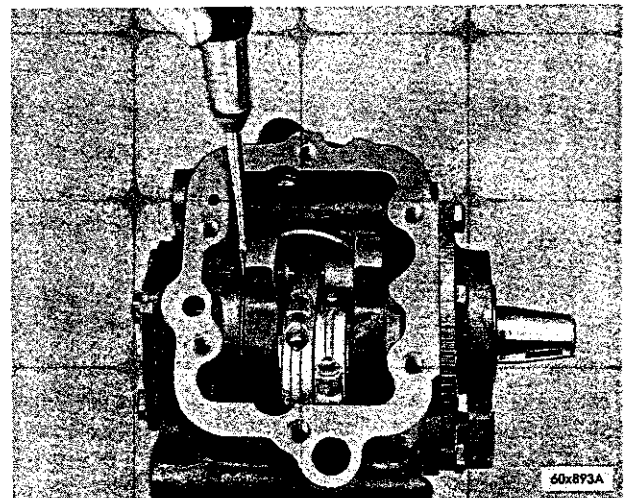

Fig. 46—Measuring the Crankshaft Axial Movement
(2) Install the crankshaft, making sure that the thrust washer is on the rear bearing journal before placing the crankshaft in the crankcase.
(3) Rotate the crankshaft to engage the oil pump shaft in the crankshaft slot.
(4) Install the gas seal and crankshaft bearing housing. Use a suitable tool, as shown in Fig. 46 to assure the free axial movement.
(5) Install the pistons and connecting rods.
(6) After the pistons and connecting rods are installed, turn the crankshaft to check freeness. The shaft should turn without binding.
(7) Install the oil sump, valve plates and the cylinder heads.